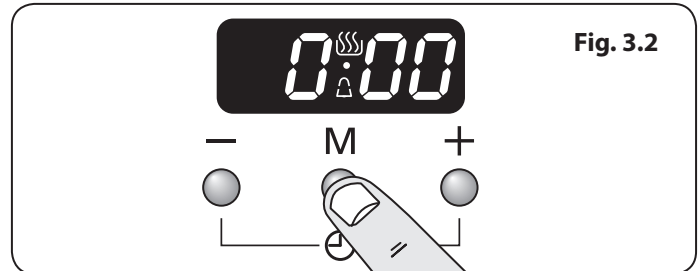
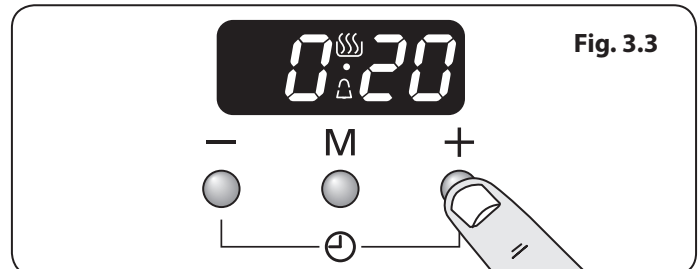

Fig. 3.2
Fig. 3.3
1. Press the mode [M] button once (**Fig. 3.2**). The bell symbol [🔔] will flash on the display. Select the desired countdown from 00:01h to 23:59h using the [+] button (**Fig. 3.3**). The countdown will automatically begin and the [🔔] symbol will show in the display.